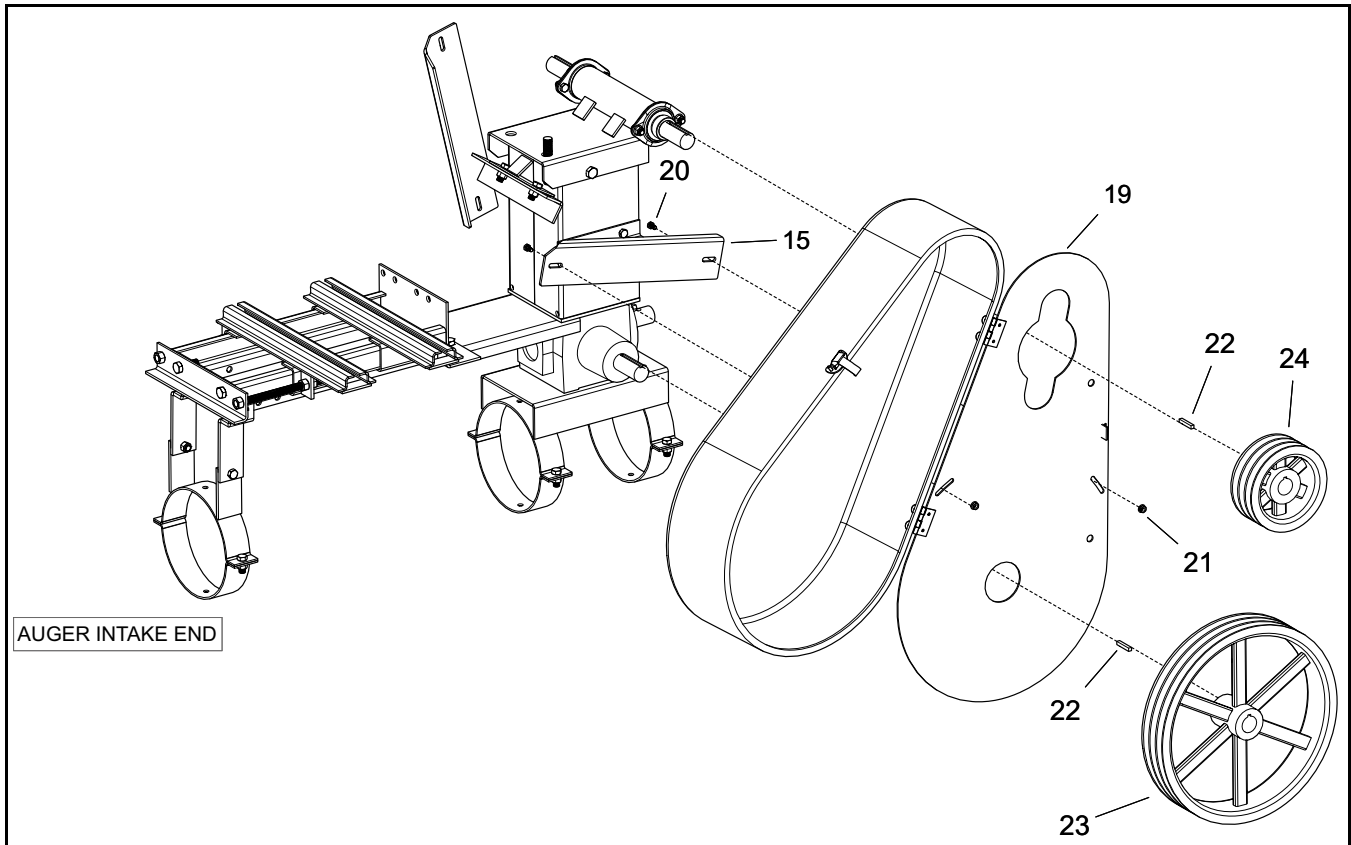

Figure 3 Installing Pulley Guard Backplate and Pulleys
8. Attach the pulley guard backplate (19) to the right-hand pulley guard bracket (15) with two 1/4" x 1/2" bolts (20) and 1/4" whiz nuts (21) as shown in Figure 3, but do not tighten them until later.
9. Slide the 1/4" x 1-1/2" square key (22) and 15" pulley (23) onto the gearbox shaft.
10. Slide the 1/4" x 1-1/2" square key (22) and 6-1/2" pulley (24) onto the jackshaft (hubs facing auger tube as shown).